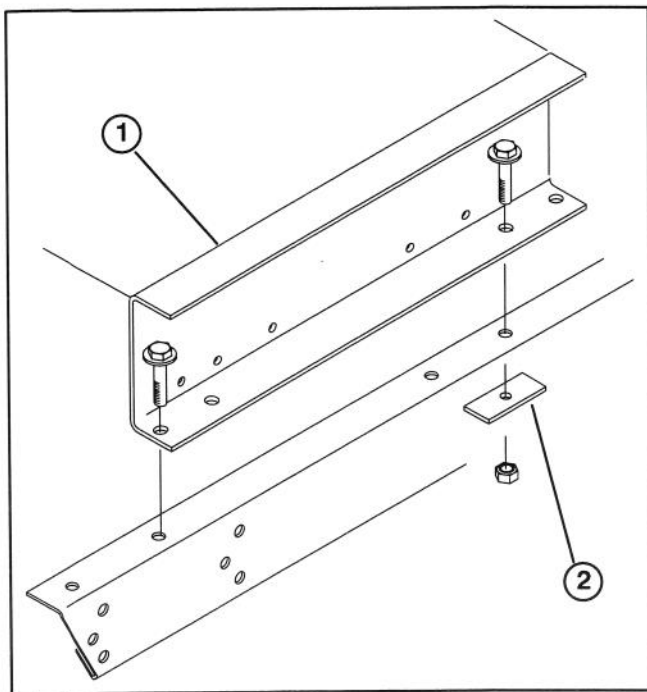

Figure 8
28. Mount each side of lift to frame channels with a reinforcing plate and (2) 3/8–16 x 1" lg. flange head capscrews and flangenuts (Fig. 8). Reinforcing plates to be used in rear mounting holes only.